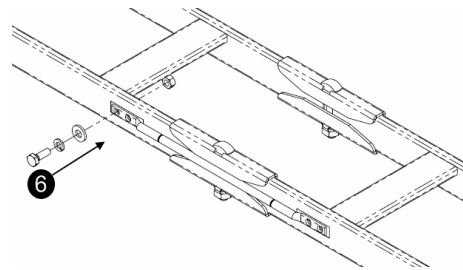

Figure 4
5. **Note: This Assembly Sequence is only required when using a Grounding Strap on painted Universal Cable Runway as an equipment ground conductor. If using zinc plated runway, painted cable runway that is NOT the equipment ground conductor, or grounding with a paint removal as described in Assembly Sequence 2 above: please continue to Assembly Sequence 6 below.** Use the grounding strap CPI P/N 40164-001. Drill two 5/16" diameter holes spaced 5/8" apart to accommodate the 2-hole compression lugs. Repeat this step on the opposite piece of the Cable Runway and ensure that they are close enough to the other holes to install the wire (See Figure 3, Step 4). Use the high speed rotary tool to remove ALL of the powder coat paint only in the area where the compression lugs would touch the Cable Runway (See Figure 3, Step 5). Apply a generous coating of grey antioxidant CPI P/N 40166-101, to the bare Cable Runway surface around the holes. Attach the straps to the Cable Runway using the stainless steel hardware provided. Torque hardware to 75-inch pounds (See Figure 4, Step 6).